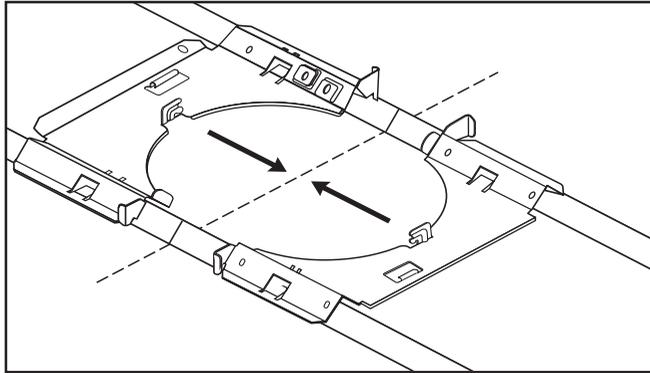

Figure 7
- 1a. For Model 8 loudspeakers, push both halves of the ceiling pan together (Figure 7). Center the support rails by lining up the space between the two halves of the pan with the center marks on the rails.